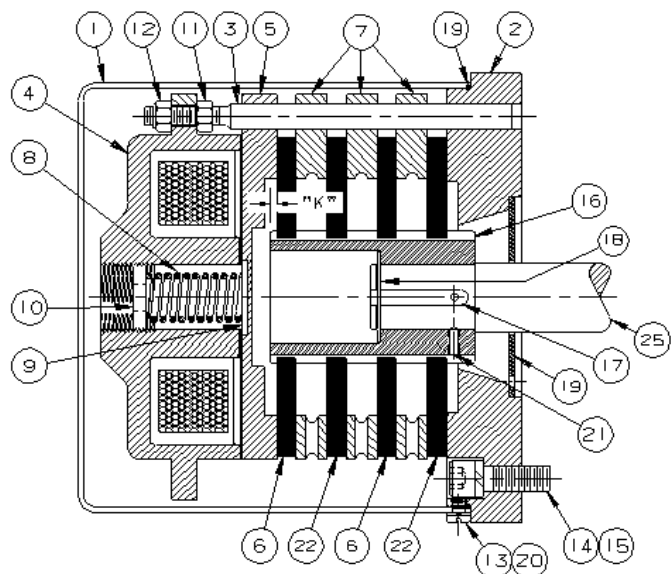

FIGURE 1. BRAKE ASSEMBLY
Refer to FIGURE 1 for a mechanical picture of the brake. Rotating mechanical power to the brake is provided by a drive shaft (25), that drives both brake lining discs (6) & (22), through the brake spline hub (16). Braking is achieved by spring (8) pressure being applied to the armature plate (5) that places equal pressure on both brake lining discs (6) & (22). Rotating mechanical power is then absorbed and converted to heat and dissipated through the armature plate (5), brake plates (7) and mounting plate (2). When the magnet shunt wound coil is electrically energized, it pulls the armature plate (5) towards the magnet pot (4) releasing the spring (8) pressure on both brake lining discs (6) & (22), which removes braking pressure and allows the drive shaft (25) to rotate freely.
3. Spline hub (16) and drive shaft (25) must not extend 0.062 inches (dimension "K") beyond the outer brake lining disc (6), otherwise, the brake will not operate. See FIGURE 1, page 1.
4. Spline hub (16) must be securely fastened to the drive shaft (25). Locating dimension "K" must be held by one of the following three methods:
- a. PREFERABLE METHOD - Provide a Class RC2* sliding fit between the spline hub (16) and the drive shaft (25). Hub shall be keyed (17) (minimum AISI 1018 CDS keystock) to the drive shaft (25). A retaining ring (18) shall be installed on the drive shaft (25) to prevent the key (17) and spline hub (16) from backing off the shaft. A shaft (25) shoulder should be provided to prevent hub (16) movement in the opposite direction.
- b. ACCEPTABLE METHOD - Provide a Class LN3* location interference fit between the spline hub (16) and the drive shaft (25). Using a 3/16 inch diameter drill, indent key (17) and shaft (25) through both set screw holes in hub (16). Then firmly install both set screws (21) to lock the hub (16) on the shaft (25).
- c. ACCEPTABLE METHOD - Provide a Class RC1 to RC2* running or slide fit between the spline hub (16) and the drive shaft (25). Apply "LOCKTITE NO. 271 THREADLOCKER" between hub (16) and shaft (25) to prevent the key (17) and spline hub (16) from backing off the shaft. Using a 3/16 inch diameter drill, indent key (17) and shaft (25) through both set screw holes in hub (16). Then firmly install both set screws (21) to lock the hub (16) into the shaft (25).